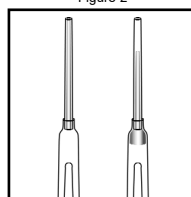

Figure 3
5. Pull the VACUette into a vertical position. A small portion of the collected sample should fall into the sleeve of the VACUette tip (fig. 3).